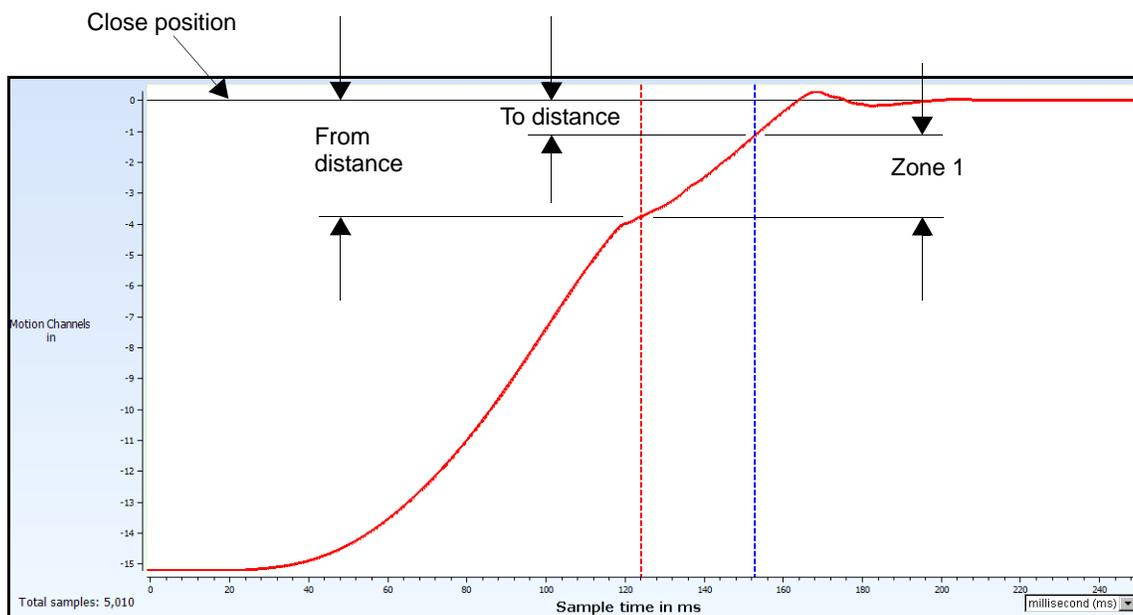

Figure 71 Average Velocity Distance to Distance Close Operation
- Distance to Distance—The circuit breaker average velocity is calculated between the two distances specified. Distances are relative to the final closed position (0.000 in/mm) of the circuit breaker as shown in Figure 71. The end distance (*TO*) must be smaller in magnitude than the start distance (*FROM*).